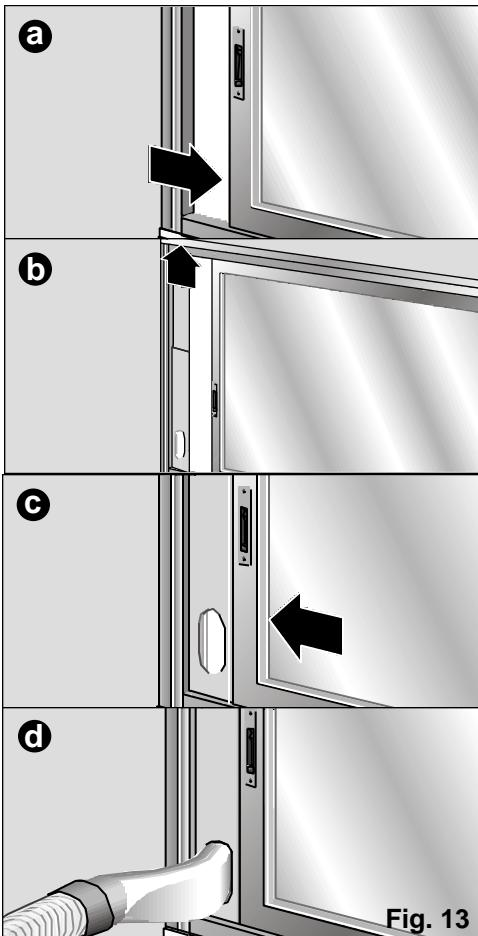

Fig. 13
- ❑ The sliding window/balcony installation accessory supplied with your appliance can also be used (See "Description of accessories"), **Fig. 13 : a, b, c, d**. This accessory can be used for both horizontal and vertical windows.